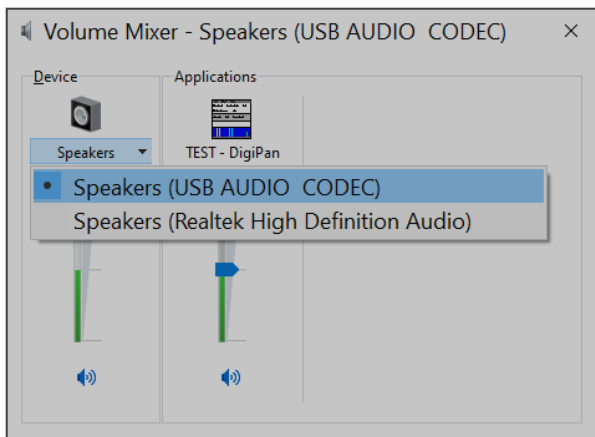

Figure 8 - Volume Mixer selection
- In the Volume Mixer window that opens, click the drop-down menu below the Speakers icon and then click "Speakers (USB Audio Codec)" so that is selected as shown below in Figure 8.